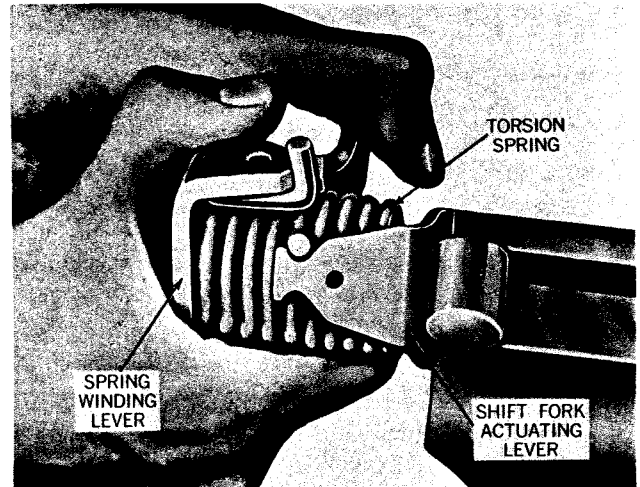

Fig. 193. Assembling Torsion Spring Drive
1. Clamp end of lever shaft in vise jaws. Position shift fork actuating lever, torsion spring and spring winding lever on shaft as shown in figure 193. Grasp spring winding lever by hand, turn lever and push until end of torsion spring engages shift fork actuating lever.